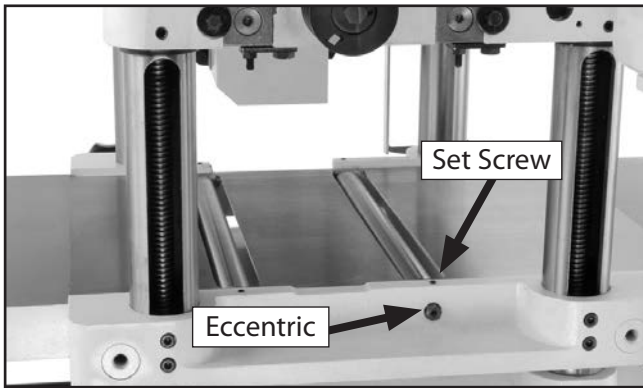

Figure 18. Roller set screws.
18. Loosen the eccentric set screws; as shown in **Figure 18**.